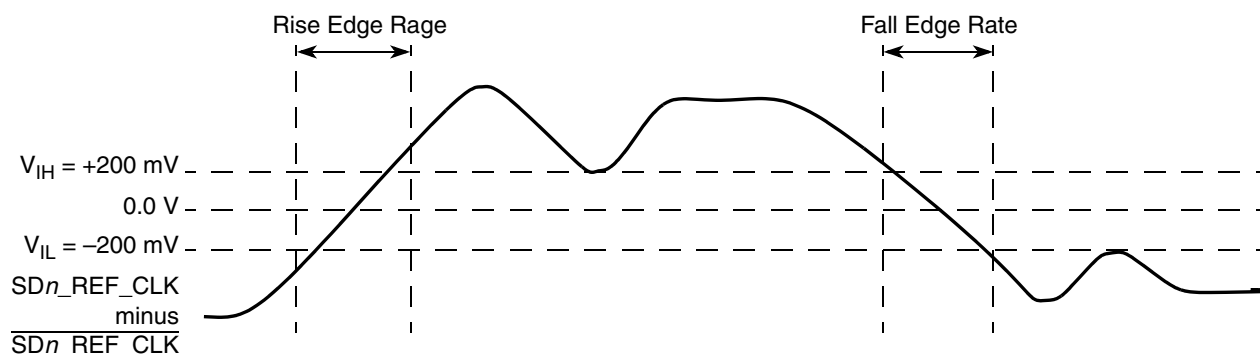

Figure 53. Differential Measurement Points for Rise and Fall Time
3. Measured from –200 mV to +200 mV on the differential waveform (derived from SDn_REF_CLK minus SDn_REF_CLK). The signal must be monotonic through the measurement region for rise and fall time. The 400 mV measurement window is centered on the differential zero crossing. See Figure 53.